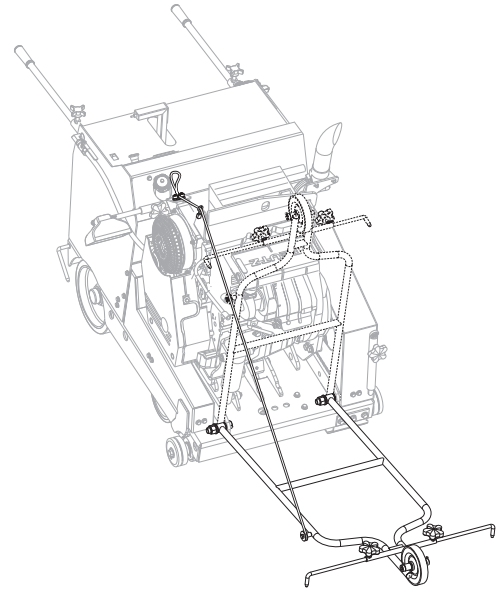

Figure 22. Pointer Assembly
1. Lower the front pointer assembly (Figure 22).